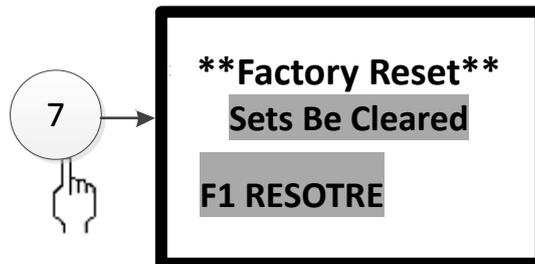

Fig. 3-33
⑦ Restore to Factory Set
Enter the screen as shown in Fig. 3-33 by pressing number 7 or moving cursor to select ⑦. Restore to Factory Set will erase many settings. Consider it carefully. Pressing “F1” and then “Enter”, Restore to Factory Set is completed with “OK” on the screen. Those settings will be restored, including password setup, system type, local address, front-end editable data, type, device location and menus. **Don't use this function if not necessary.**